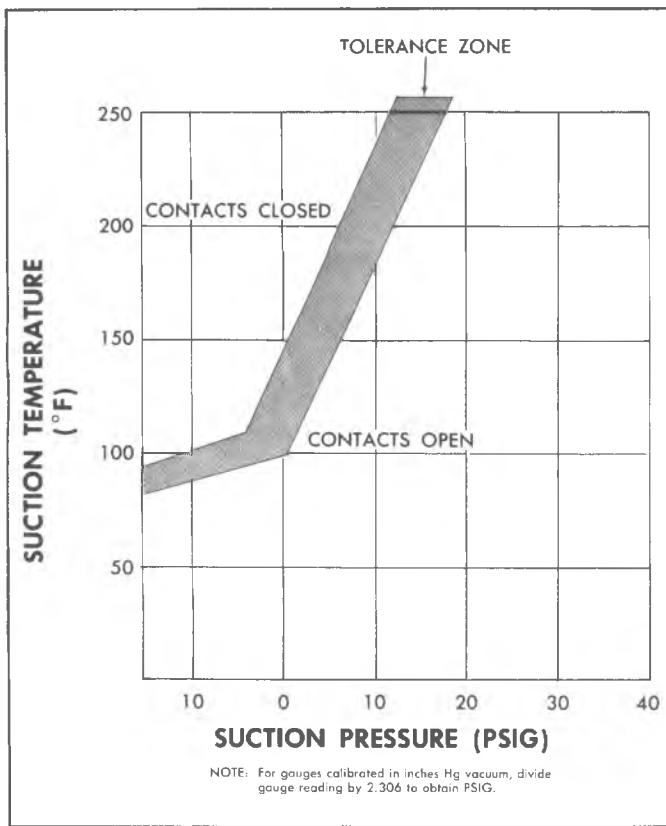

Fig. 84-Superheat Switch Calibration Chart
9. Check for electrical continuity between the switch terminal and switch housing to be sure the contacts are open according to the Calibration Chart (fig. 84).